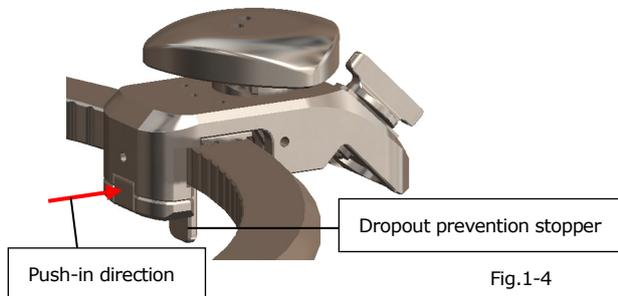

Fig.1-4
(1)-4 Push in and lock the dropout prevention stopper (Fig.1-4).